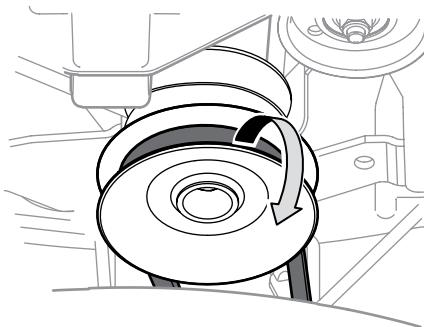

Figure 4-9
4. Remove the belt from around the tractor's PTO pulley. See Figure 4-9.
3. Remove the deck belt from around the riding mower's PTO drive pulley as shown in Figure 4-9. Simply roll one side of the belt OFF of the pulley and then work it OFF the pulley by continuing around the pulley until the belt is OFF of the pulley.
9. Feed the deck belt through the belt keeper rod and work it around and onto the PTO drive pulley as shown in Figure 4-9.